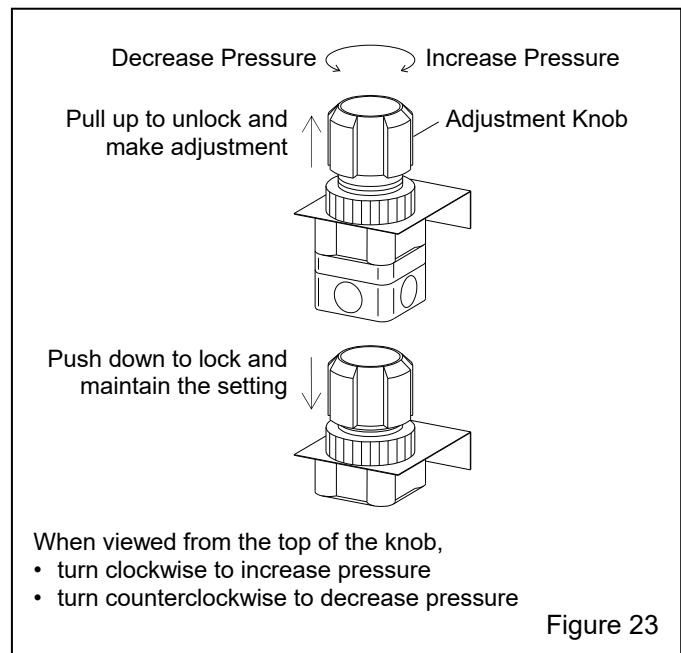

Figure 23
**5.7 Dust-Collector Pulse Pressure – Figure 23**
**5.7.1** Adjust pulse pressure using the regulator mounted on the dust-collector body. Begin pulsing at 60 psi. To adjust pressure, pull the knob to unlock it, as shown in Figure 23, turn clockwise to increase pressure or counterclockwise to decrease pressure. Once operating pressure is set, push the knob to lock it and maintain the setting.